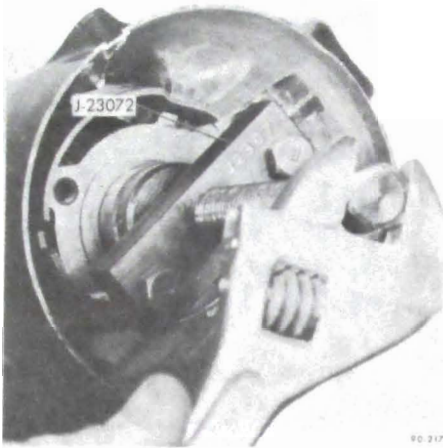

Figure 90-141 - Removing Shift Tube
25. Remove shift tube from bowl using Remover J-23072. Pilot adapter in upper end of shift tube and force tube out of bowl. Care should be taken not to jam lower shift lever into "T" slot on lower end of mast jacket while forcing out shift tube. See Figure 90-141.